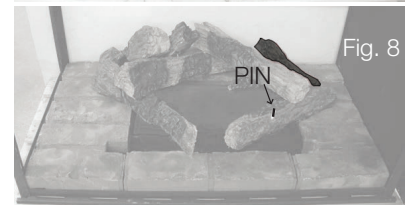

Fig. 8
- Place log #8 on the hearth pad and let it rest against the notch in the side of log #7 **(FIG.8)**